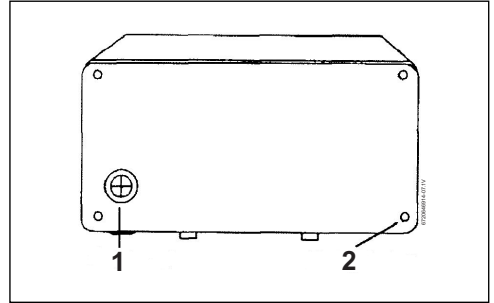

Fig. 10 Back of unit
- ▶ If it is going through the back of the unit, cut through the grommet on the backplate with a sharp knife. Make sure that you do not remove the grommet from the backplate (Fig. 10):